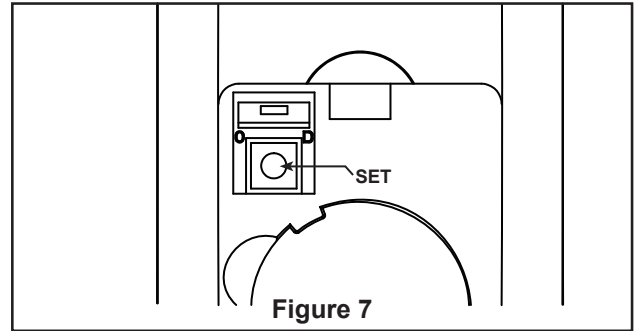

Figure 7
9. If you have encountered an issue during the set up process, you can follow the below procedure to clean the memory code of your handheld remote: (Figure 7)